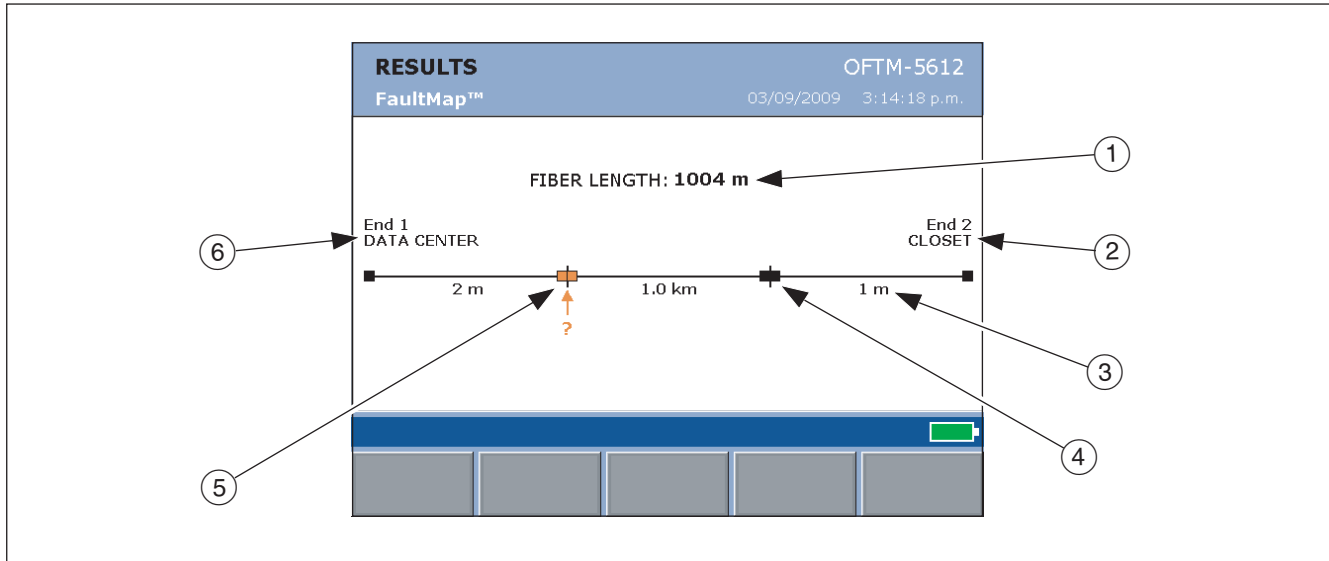

Figure 19. FaultMap Diagram Features
- 5 Press . Figure 19 describes the features of the FaultMap diagram.